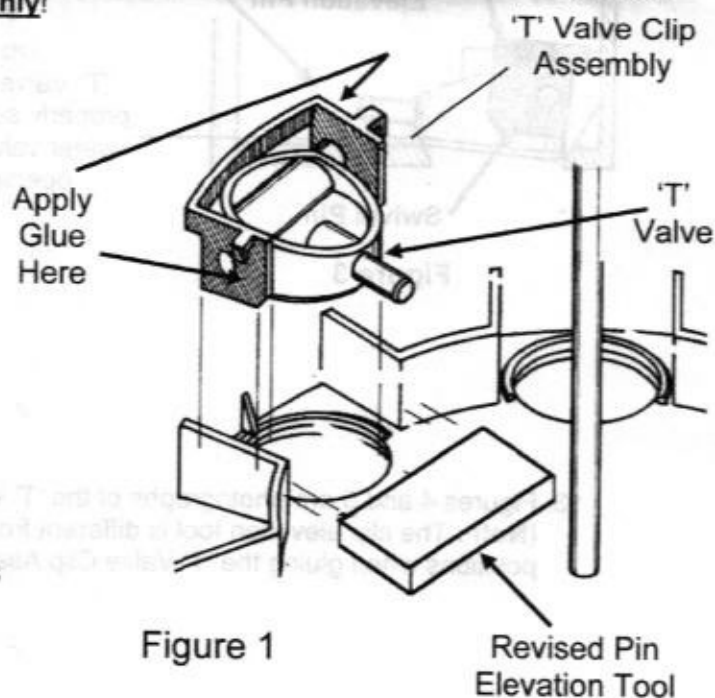

Figure 1
3. Rinse the lower housing to remove any debris. Use the supplied emery cloth to clean & rough-up the mating surface between the lower housing and the T-Valve Clip (See Figure 1)
6. If item 5 above is OK, apply the plastic welder (supplied) to both sides of the clip surfaces (see **Figure 1**), then slip the clip assembly into the water valve base. **Note:** Do not substitute any other glue for this application. Use the supplied glue only!